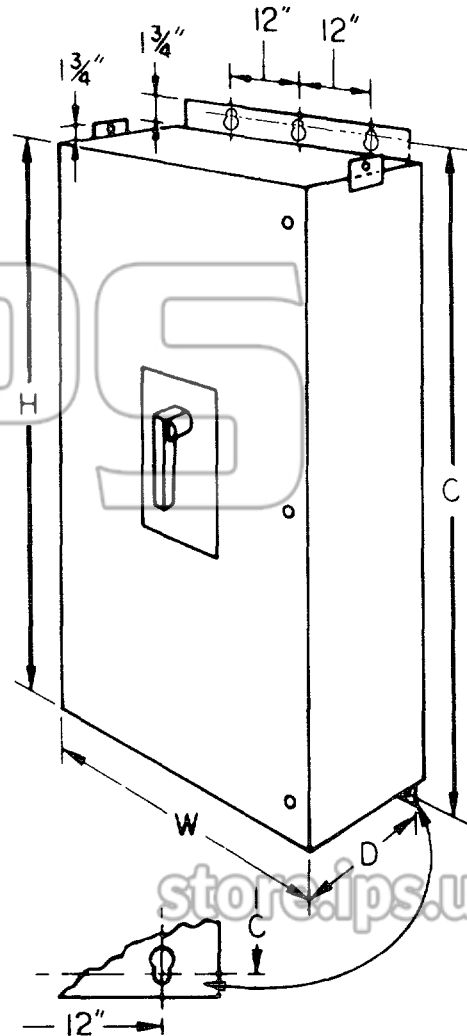

Figure 2
1. Lifting plates are provided and are assembled to the inside of the enclosure near the top for shipping purposes. Remove the two lifting plates and reassemble to the outside of the enclosure sidewalls as shown in Figure 2.
2. Remove the two enclosure mounting plates from the enclosure and reassemble to the outside of the rear wall, one at top and one at bottom, using the same screws, washers, and nuts. Key-slotted holes are on 12.00 inch centers. Use 3/8 in. diameter bolts (not provided) to mount enclosure to wall. See Fig. 2 and Table 2.